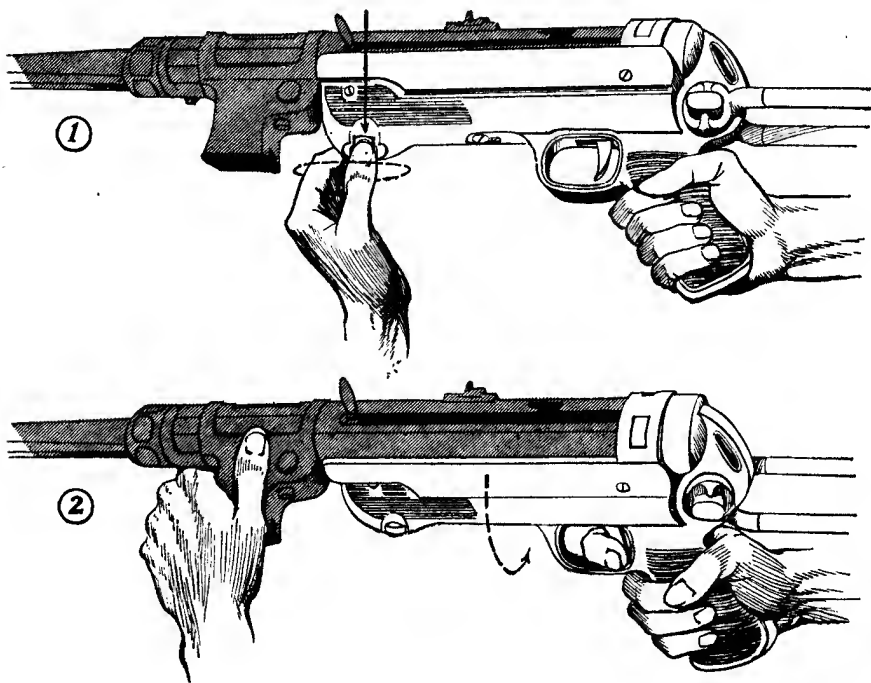

Figure 10.—Method of removing receiver of M.P. 40 from barrel and from magazine housing.
(2) *Stripping.*—First, be sure that the gun is unloaded and uncocked. Pull out the locking pin (see fig. 10 ①) located on the bottom front portion of the receiver behind the magazine well, and turn the pin a
little to keep it unlocked. Grasp the barrel with the left hand and the pistol grip with the right; press the trigger, and at the same time turn the receiver in a counterclockwise direction, holding the magazine housing in its normal position (see fig. 10 ②). It will then be possible to separate the receiver from the barrel and from the magazine housing. Remove the bolt and recoil spring from the receiver by means of the operating handle. The recoil spring may be removed from the telescoping recoil-spring housing.